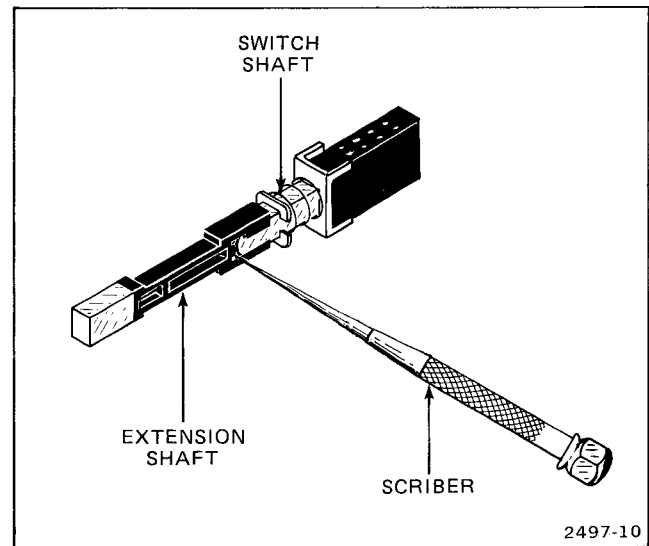

Figure 4-2. Pushbutton extension shaft removal.
1. Insert a sharp pointed tool (such as a scriber) between end of switch shaft and extension shaft as shown in Figure 4-2.